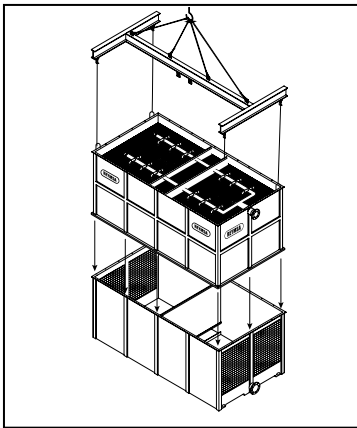

Figure A-109: Body section installation for a modular tower (RTGMTC-C2)
- J. Assemble body section #1 (for RTGMTC-C2) with the basin section # "M1A", making sure that the bolt holes on body section # "M1A" are aligned with the ones perforations on basin section # "M1A", then bolt down and secure the horizontal flanges with the stainless steel nut and bolt sets supplied by REYMSA (see Figure A-109 for reference).